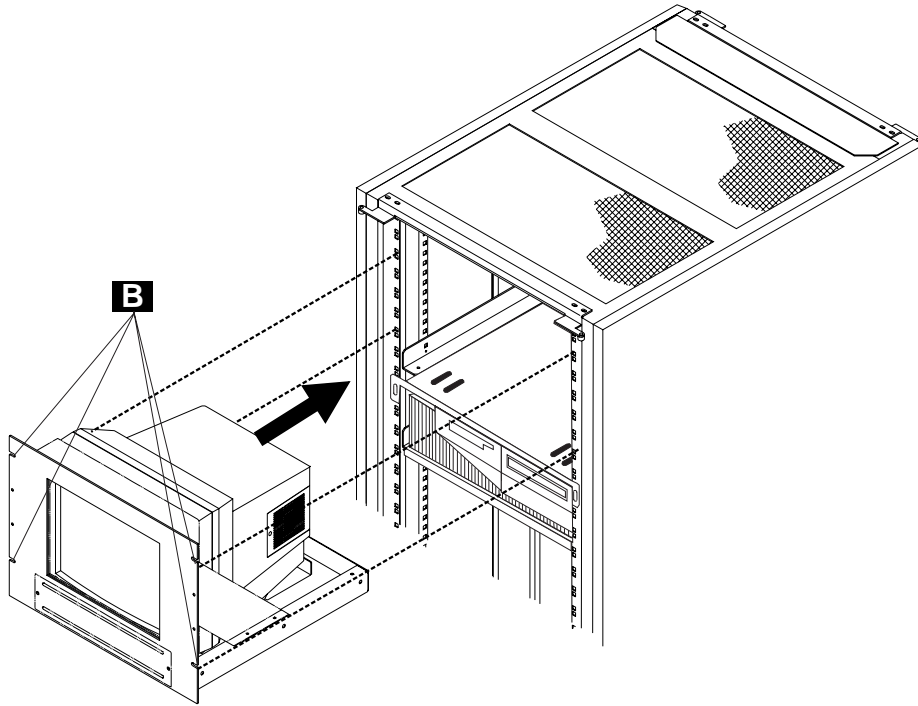

Figure 5-11. Display Assembly Installation in 37U Rack
8. Slide the display into the rack and secure it with screws **B** (see Figure 5-11 on page 5-12).